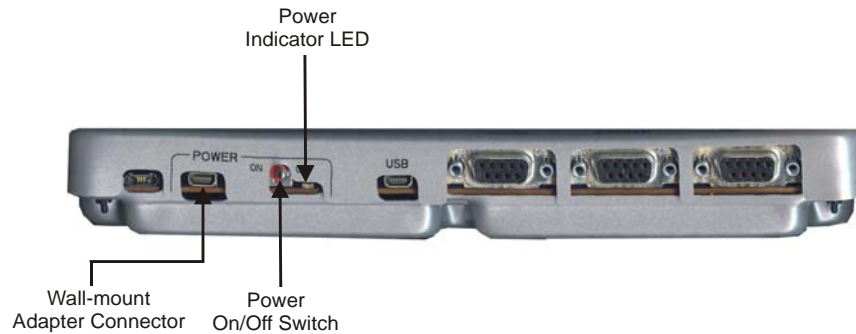

Figure 2-8: G24-L Developer's Kit Wall Mount Adapter Connector
1. Connect the Wall mount adapter to the Power Adapter connector (J210) (Figure 2-8)